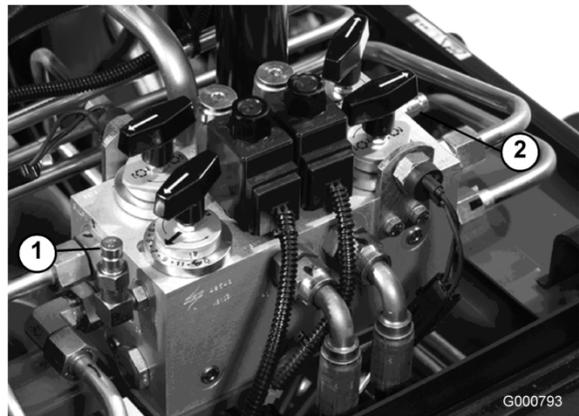

Figure 68
2. Test Port B (Figure 68) is used to assist in trouble shooting the hydraulic circuit for the front cutting units.
3. Test Port C (Figure 68) is used to assist in trouble shooting the hydraulic circuit for the rear cutting units.